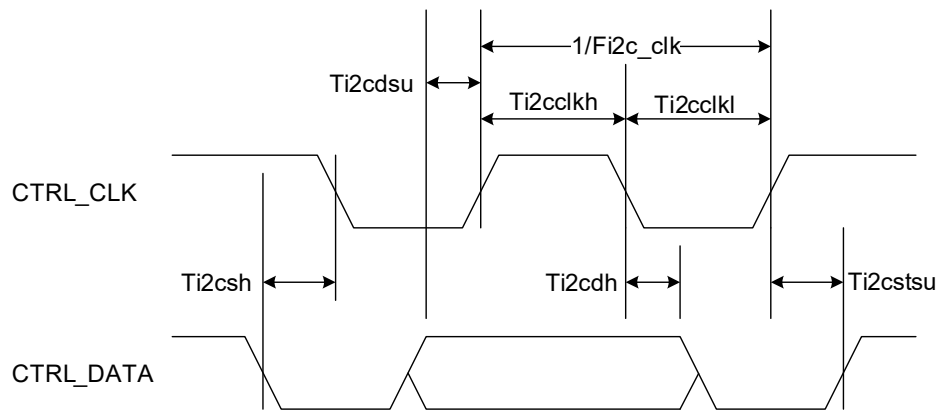

Figure 5. I²C Timing ( $CTRL\_MODE == 0$ )
I2C BUS TIMING(3) See <a href="#">Figure 5</a> .